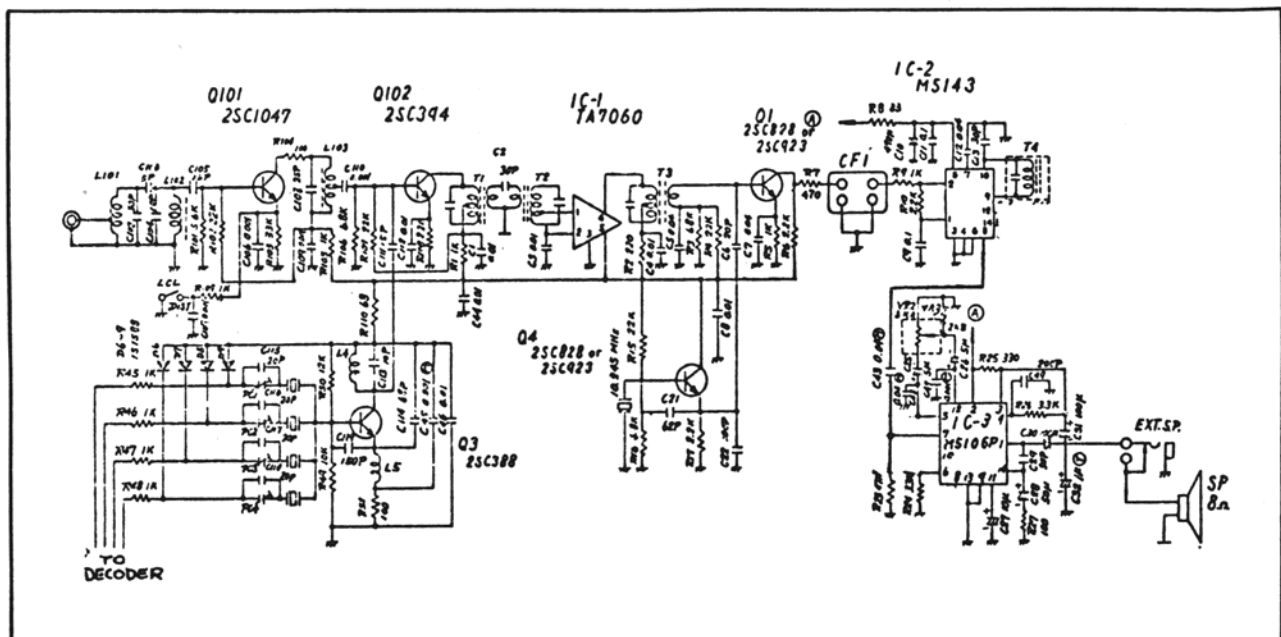

Figure 3-1 Receiver Circuit
3.2.1 Receiver Circuit (Figure 3-1)